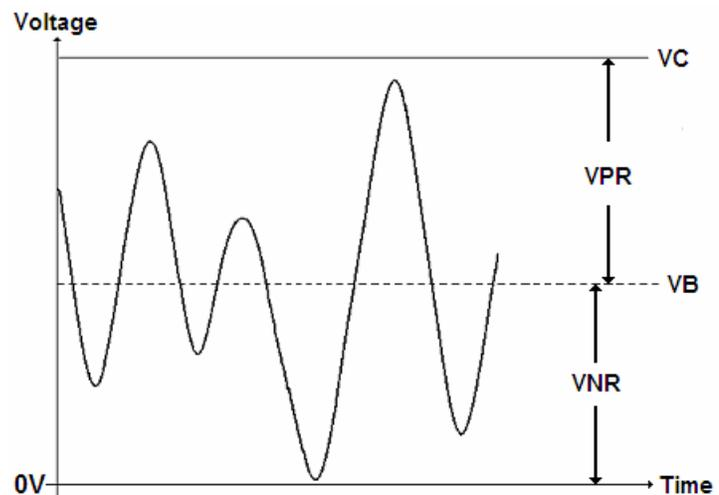

Figure 3 - Sensor Output Signal
The compliance voltage provided by the SCM5B48 module and the DC bias voltage from the sensor determine the available dynamic range of the sensor and the maximum input for the SCM5B48. The required compliance voltage (VC) for standard ICP®\* sensors is between 18V and 30V while the sensor output DC bias voltage (VB) is between 8V and 13V. The value of VB will vary by sensor type and manufacturer. Refer to sensor datasheets to determine the value for the particular sensor used. Figure 3 shows a typical accelerometer output signal.